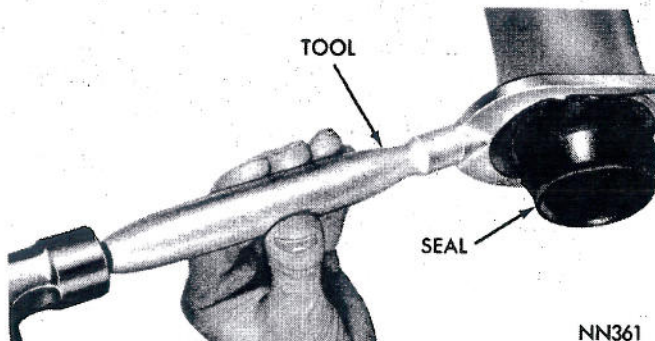

Fig. 6—Removing Extension Housing Yoke Seal
(2) Remove oil seal with Tool C-3985 (Fig. 6).
(1) Mark parts for reassembly then disconnect propeller shaft at rear universal joint. Carefully pull shaft assembly out of the extension housing.